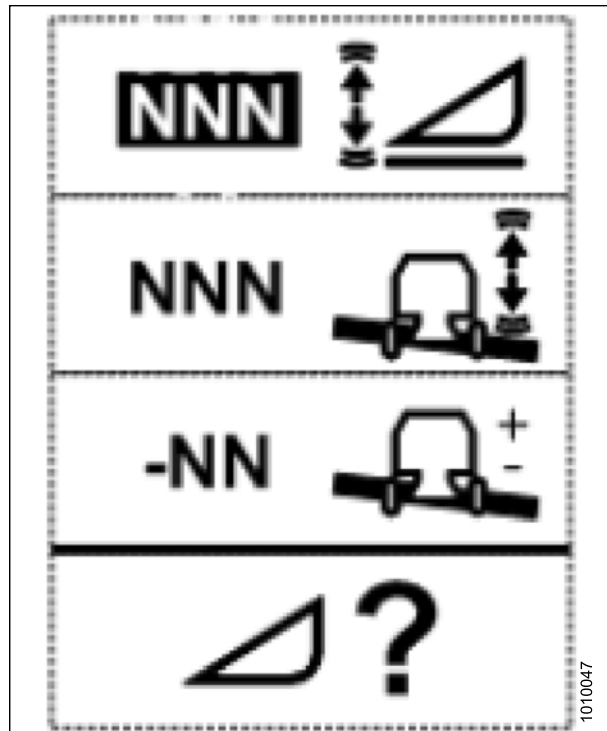

Figure 7.35: Height Sensitivity Change Page
1. Use HEADER SETTINGS key (M) to display the HEADER SENSITIVITY CHANGE page as shown in Figure 7.35, page 172.
2. Use the UP or DOWN keys (E) or (H) to adjust the highlighted item. The height sensitivity setting range is 0 (least sensitive) to 250 (most sensitive) in increments of 10.